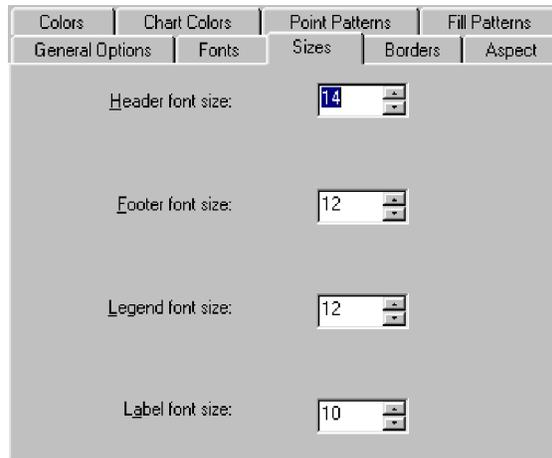

Figure 8.15 *Graph Options dialog box: Sizes tab*
- 2 In the **Graph Options** dialog box, click the **Sizes** tab (Figure 8.15).